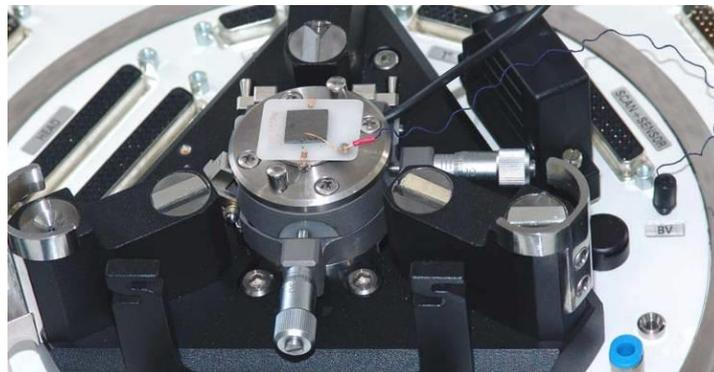

Fig. 9-3. Installing a sample
5. Install the substrate with the sample on the sample stage, sliding it in sideways under the fixing clips. The spring contact should be seen during insertion (Fig. 9-3). Make sure that the spring contact does not touch any metal parts of the tip holder.
6. Insert the voltage terminal into **BV** connector on the base unit (see Fig. 9-3).